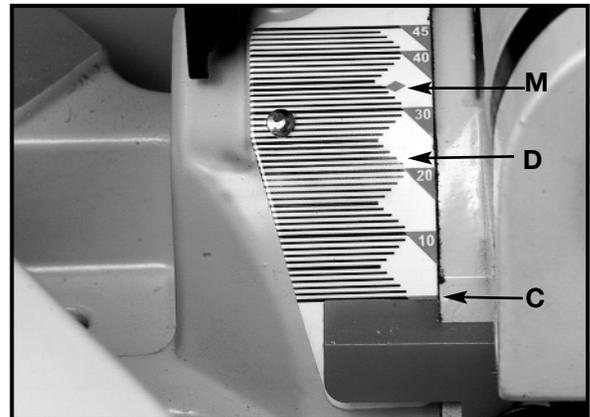

Fig. 19
3. Positive stops are provided to rapidly position the saw blade at 90° and 45° to the table. Refer to the section of this manual titled “**ADJUSTING 90° AND 45° BEVEL POSITIVE STOPS.**” The bevel angle of the cutting arm is determined by the position of the pointer (C) Fig. 19, on scale (D).
4. In addition, a marked indicator (M) is provided on the bevel scale (33.9°) for cutting crown moulding. Refer to the “**CUTTING CROWN MOULDING**” section of this manual.